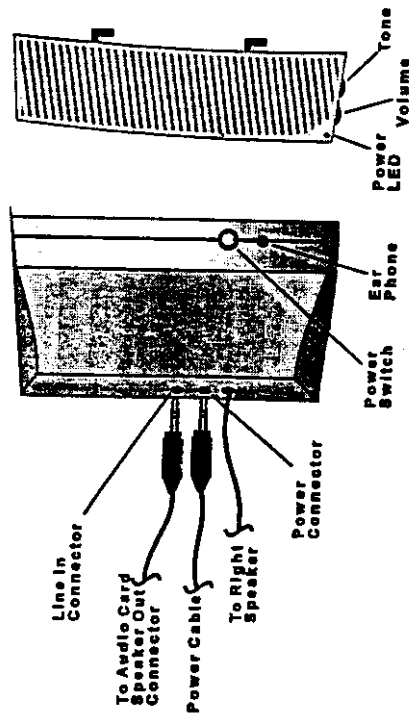

Figure 15: Speaker Controls and Connectors
- Connect one end of the speaker to sound card audio cable to the left speaker's line-in connector. See Figure 15 if you are having trouble locating this connector. Connect the other end of the cable to the sound card's line-out/speaker-out connector.
- Connect the power cable's 1/8" connector to the left speaker's power connector. See Figure 15 if you are having trouble locating this connector. Then plug the other end of the power cable into a wall outlet or power strip.